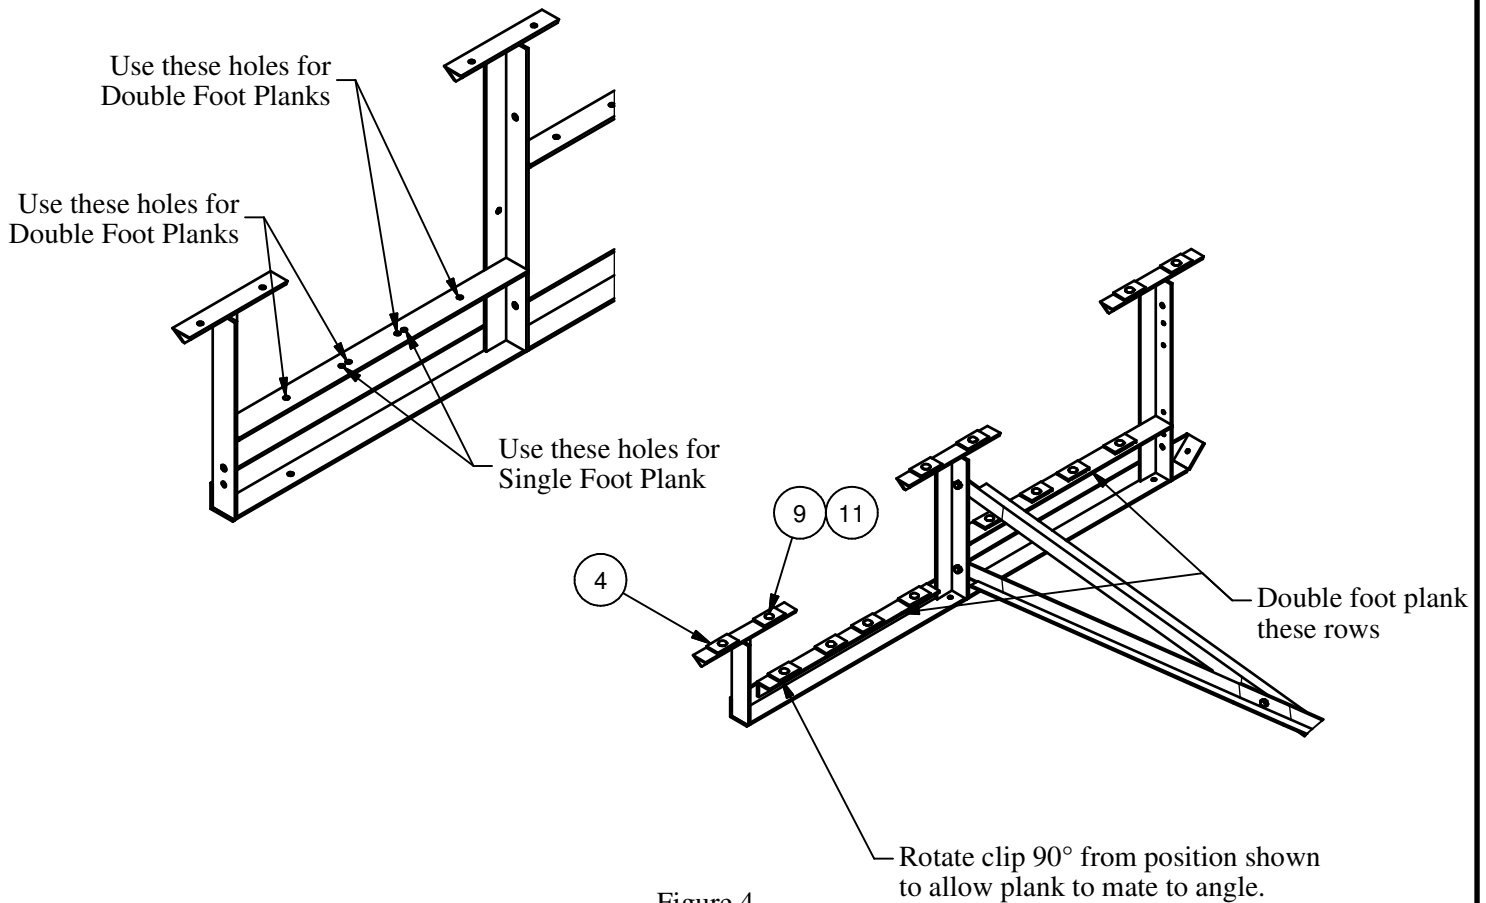

Figure 4
6. Install the seat planks using the mounting clips, 5/16" x 1" carriage bolts, and 5/16" whizlock as shown in figure 4. Note: these mounting clips, bolts, and nuts are required at every frame position.